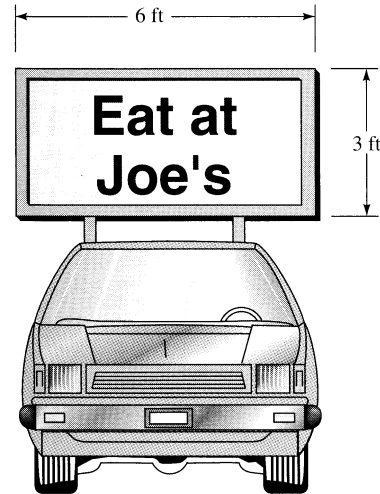

Fig. P7.88
**7.88** A pickup truck has a clean drag-area  $C_D A$  of  $35 \text{ ft}^2$ . Estimate the horsepower required to drive the truck at  $55 \text{ mi/h}$  (a) clean and (b) with the 3- by 6-ft sign in Fig. P7.88 installed if the rolling resistance is  $150 \text{ lbf}$  at sea level.